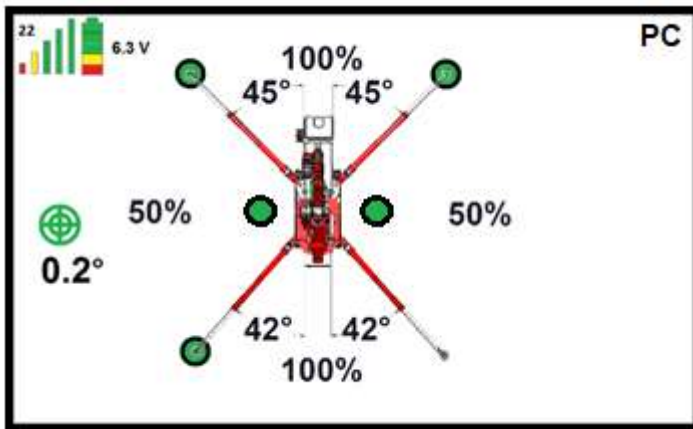

Figure: 42
- The transmission frequency is shown at the top left. See *figure 42*; here it is set to 22.
- The signal strength is indicated by 5 vertical bars. If the strength is good, they are all shown, as in *figure 42*. As the signal weakens, the green bars disappear first, then the yellow and red ones. If the signal is too weak, you can select another frequency by switching the transmitter and machine off and on again. See section 6.2.1.
- The battery state of charge is shown in the battery symbol in the top-left corner of the screen. When the battery is fully charged, 3 green blocks, 1 yellow and 1 red are shown, as in *figure 42*. As the battery discharges, the blocks go out, one at a time.
- The voltage is shown in volts. In *figure 42* this is 6.3 V.
- The degree of levelling of the machine is also shown. This is indicated by the green circles in the middle. In *figure 42* the crane is 0.2° out of level. Which side it is leaning towards is not shown. This can be seen on the level (see *figure 34*).
- The left-front outrigger leg is set at 45° in *figure 42*.
- The right-front outrigger leg is set at 45° in *figure 42*.
- The left-rear outrigger leg is set at 42° in *figure 42*.
- The right-rear outrigger leg is set at 42° in *figure 42*.
- At the front of the crane 100% of the lifting capacity may be lifted in *figure 42*.
- On the right side of the crane 50% of the lifting capacity may be lifted in *figure 42*.
- At the rear of the crane 100% of the lifting capacity may be lifted in *figure 42*.
- On the left side of the crane 50% of the lifting capacity may be lifted in *figure 42*.
- A green circle is shown by three of the four outrigger legs in *figure 42*. The outrigger leg without a circle is not set properly; it is most likely not in contact with the ground or there is too little pressure on it. When a green circle appears, it is set properly.